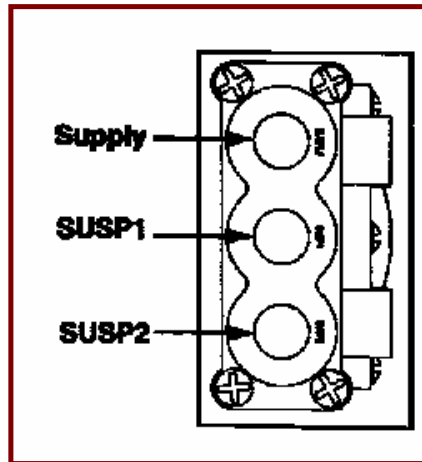

Figure 4 HCV Ports
- 8). A). Connect air line from air spring to “DEL” ports on HCV. Refer figure 4. The HCV has two air spring ports. If only one port is to be used the other port must be plugged.